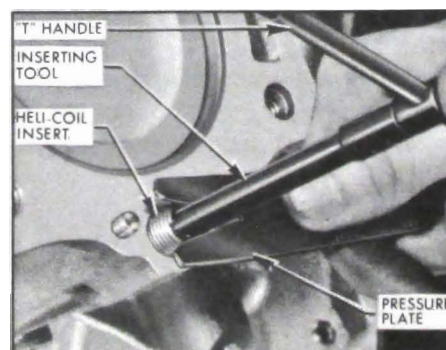

Figure 2-65—Installing Insert
3. Install the insert. See Figure 2-65.
mouth of the hole as illustrated in Figure 2-65. Do not apply downward pressure on the inserting tool.